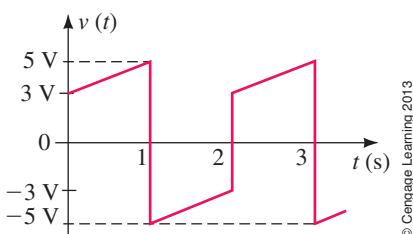

FIGURE 25–62
18. The waveform of Figure 25–63 is made up of a dc voltage combined with two fundamental waveforms from Table 25–1. Determine the dc voltage and sketch the two waveforms. Determine the Fourier series of the composite wave.